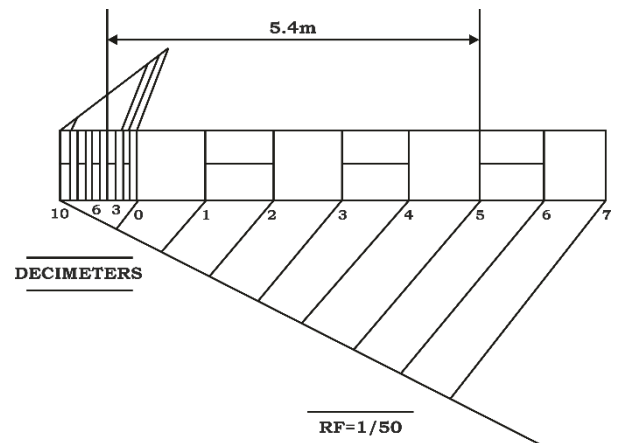

Fig. 1.26: Construction of Plain Scale
Objective: To construct and use plain scale, diagonal scale, and scale of chords using a given Representative Fraction (RF) for accurate measurement and representation in engineering drawings (Fig. 1.26).